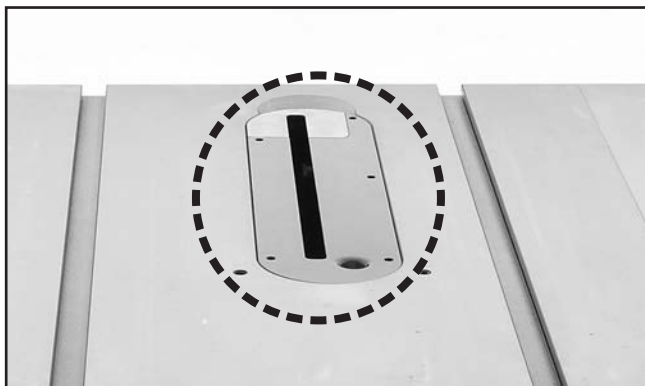

Figure 25. Table insert installed.
11. Install table/dado insert in table throat (see **Figure 25**). Check to make sure it is flush and adjust if necessary (see **Table/Dado Insert Adjustment** on **Page 70** for more information).